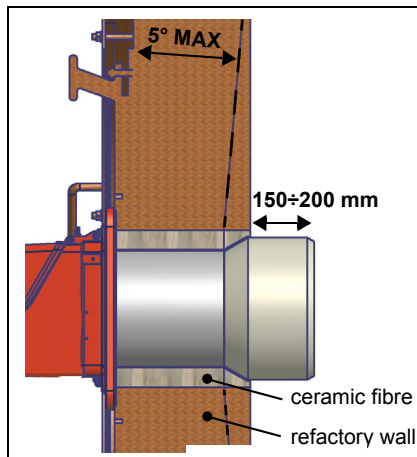
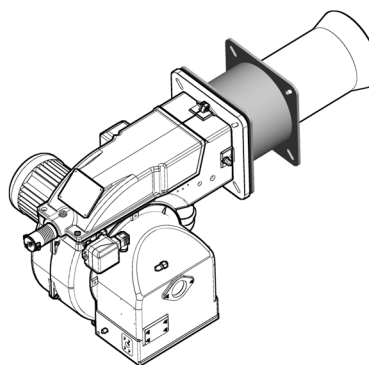

Fig. 4
Fig. 5
The burners described in this manual have been tested with combustion chambers that comply with EN676 regulation and whose dimensions are described in the diagram. In case the burner must be coupled with boilers with a combustion chamber smaller in diameter or shorter than those described in the diagram, please contact the supplier, to verify that a correct matching is possible, with respect of the application involved. To correctly match the burner to the boiler verify the type of the blast tube. Verify the necessary input and the pressure in combustion chamber are included in the burner performance curve; otherwise the choice of the burner must be revised consulting the burner manufacturer. To choose the blast tube length consider the following rule, even if it differs from the instructions of the boiler manufacturer: Cast-iron boilers, three pass flue boilers (with the first pass in the rear part): the blast tube must protrude about 150÷200 mm into the combustion chamber (Fig. 4). The length of the blast tubes does not always allow this requirement to be met, and thus it may be necessary to use a suitably-sized spacer to move the burner backwards (Fig. 5).
- 1-b) in case of flanged joints: place a gasket (no. 1A..1E - Fig. 4) between the elements;
**ATTENTION:** once the gas train is mounted according to the diagram on Fig. 4, the gas proving test must be performed, according to the procedure set by the laws in force.